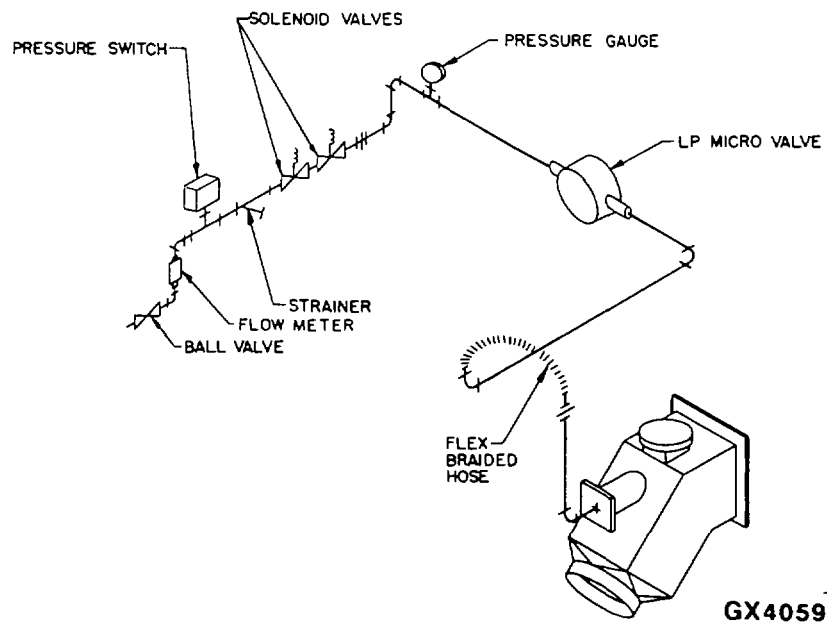

Fig. 12-LP Piping Arrangement
6. Open the ball valve upstream of the LP solenoid valve and check the burner LP manifold for leaks (see fig. 12).